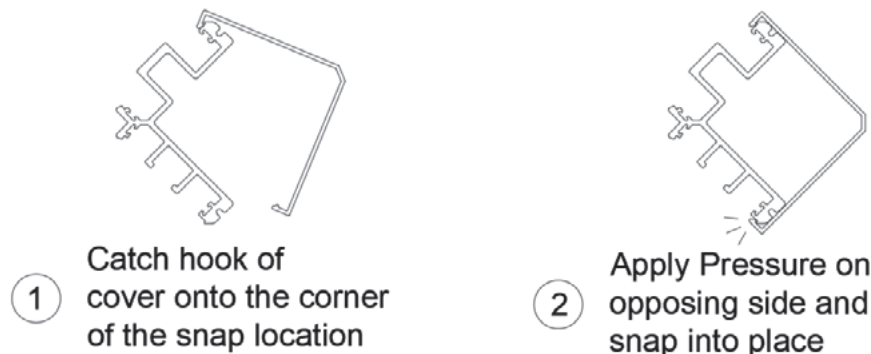

Figure 32
- 3. When** panels are ready to be installed, locate the corner astragal panel and the separately packaged astragal cover (Item 14). Align the cover with the bottom of the astragal and snap into place (Figure 32). Verify the cover is aligned with the top and bottom of the astragal.